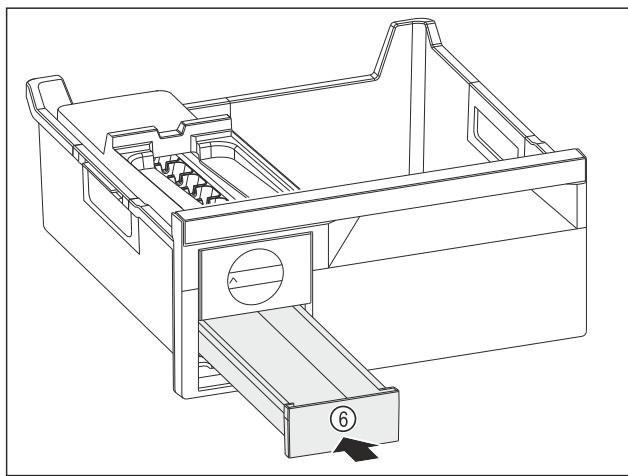

Fig. 163
- ▶ Insert the ice cube drawer Fig. 163 (6).